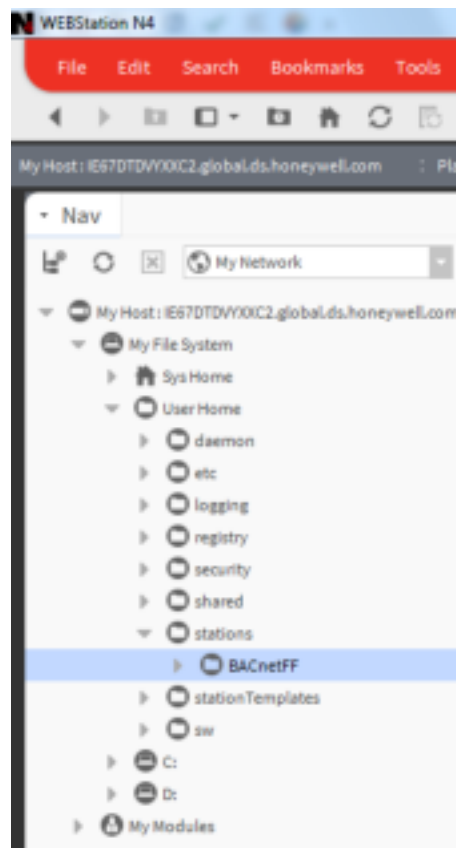

Figure 12: Location of New Station (BACnetFF)
- Click 'Finish' to complete action. It creates a station at 'My Host > My File System > User Home > Stations > (created station)'. Refer to Figure 12.